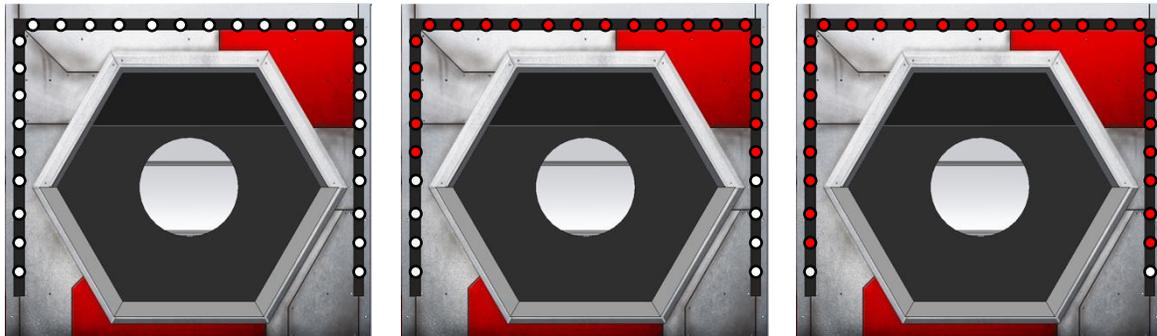

Figure 3-17 POWER PORT CAPACITY progress
Around the OUTER PORT a Phillips Color Kinetics LED Light String is used to indicate the progress towards CAPACITY. The string fills symmetrically starting from the top center and proceeding out, then down. The initial nodes for each Stage (starting from the center) light up in sections that differ depending on the CAPACITY of the current Stage. The bottom four nodes on either side of the OUTER PORT always fill at a rate of one (1) node per POWER CELL scored. Examples are shown in Figure 3-17.